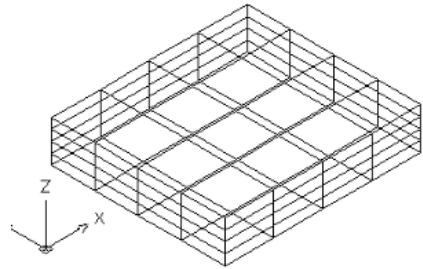

Figure 29-35 The mesh box created
7. Enter **L** at the above prompt and specify the following dimensions to create a mesh box, as shown in Figure 29-35.